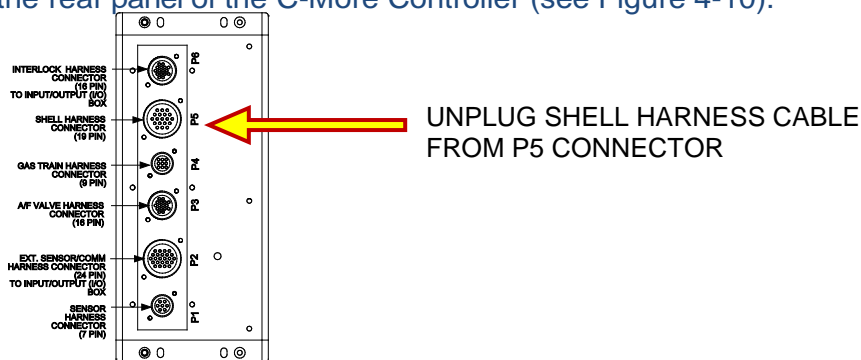

Figure 4-10: Removing Shell Harness Cable from P5 Conn. on C-More Rear Panel
2. Remove the Shell Harness Cable (male) connector from the P-5 (female) connector on the rear panel of the C-More Controller (see Figure 4-10).